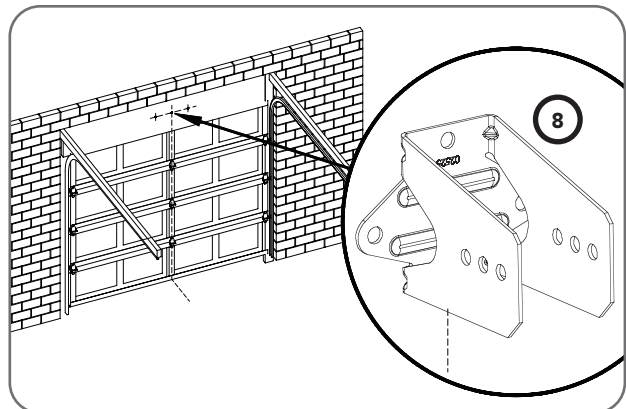

Fig 6.3
- Mark the position of the wall bracket (8) holes on the wall above the door (**Fig. 6.3**). Check the bottom of the bracket is a minimum of 50mm above the top of the door when in the open position.
- Secure the wall bracket (8) in place with loxins or appropriate fasteners (not supplied).